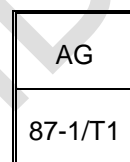

Figure 11. Labels internal to the cabinets
- *Nameplates and labels installed in the back of the swing rack or inside the cabinet:* these will be installed on the upper right side of the equipment. The label will consist of the two letter identifier wiring scheme shown in the wiring diagrams and the functional identifier of the drawings (see example in figure 11).